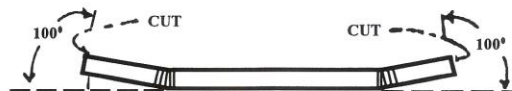

FIGURE 6
4. CUT EACH END OF THE FRONT FRAME TUBE AS SHOWN BELOW IN FIGURE 6.